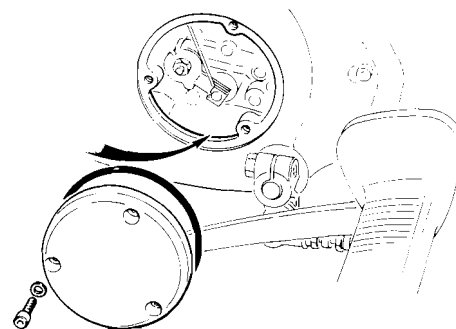

Figure 43 Refilling the gearbox to the indicated level
4. Remove the L.H. gearbox cover plate (3 screws). See Fig. 43
6. Refill gearbox with approximately 1 litre of oil (Recommended Lubricants, page 64). Fill gently and allow time for oil to settle to correct level with machine level. 3mm below edge of casting. (Fig 43)